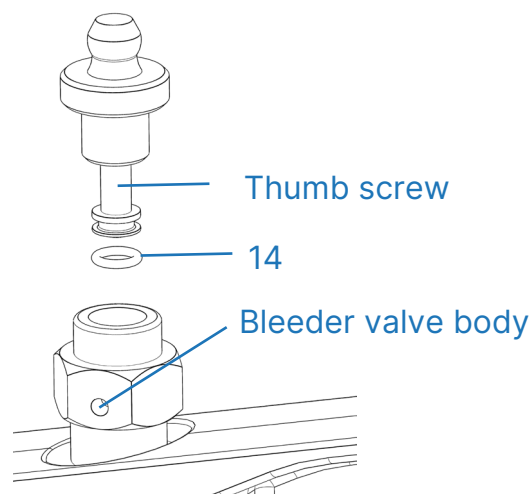

Figure 11
1. Turn the thumb screw counterclockwise until it is detached from the bleeder valve body. (See Figure 11)
2. Use a small flathead screwdriver to gently pry out the old O-ring (14). Be cautious not to scratch the sealing surface.